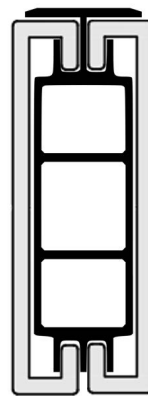

Fig. 6
6. Assemble the rails by sliding a Trex rail cover over each side of the rail fence insert (Fig. 6). Note: If using rail clips to secure rails, follow step 7 before installing rails.